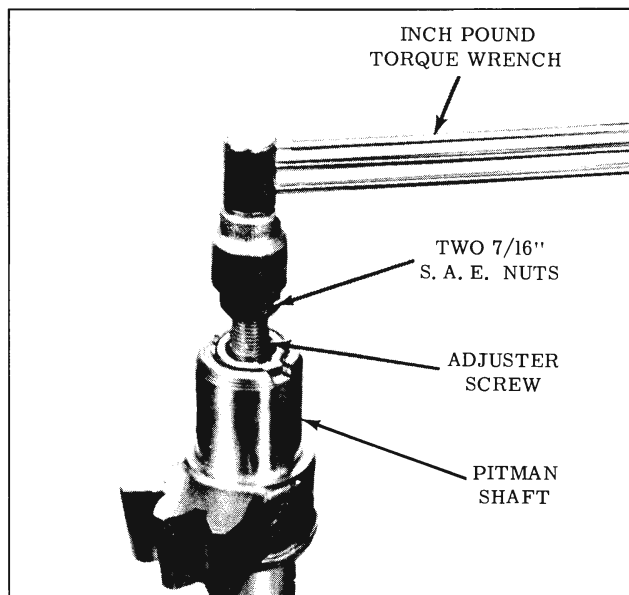

Fig. 4-267 Checking Pitman Shaft
2. Using a 5/8" socket and an inch-pound torque wrench, measure the torque required to turn the adjusting screw. (Fig. 4-267) Torque reading should be 1 to 15 inch pounds.